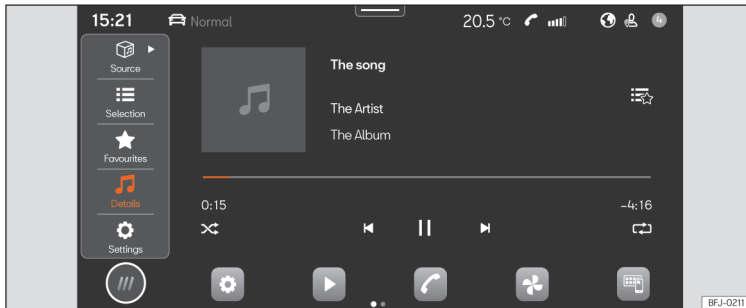

Fig.151 Schematic representation: Multimedia view
- Press **HOME > ► >>> Fig. 151**.